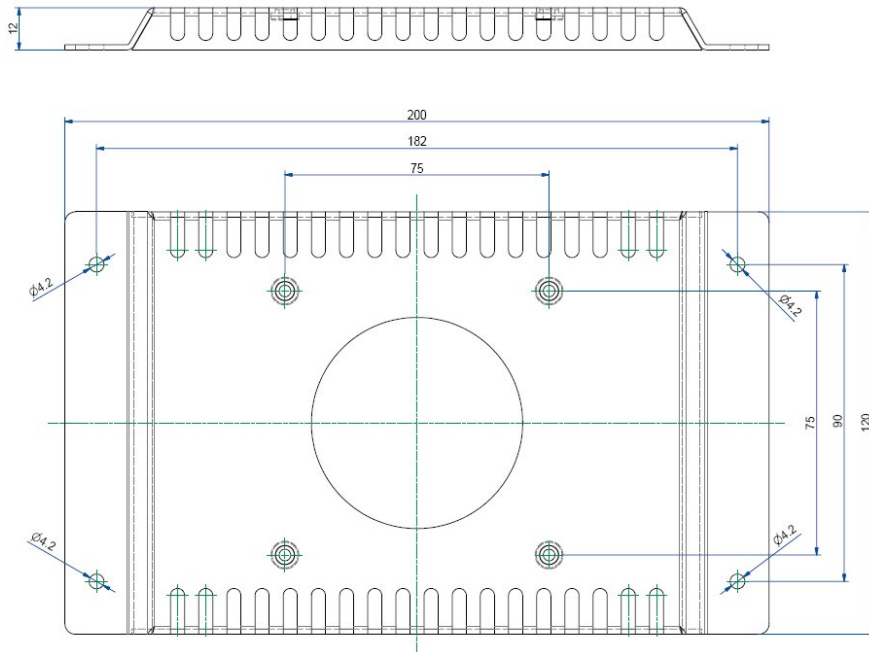

Fig. 31: Rear and bottom view of the mounting plate VESA® 75 compliant for M@II 70)
- ❑ M@CII 70 is VESA® 75 compliant (refer to Fig. 31).